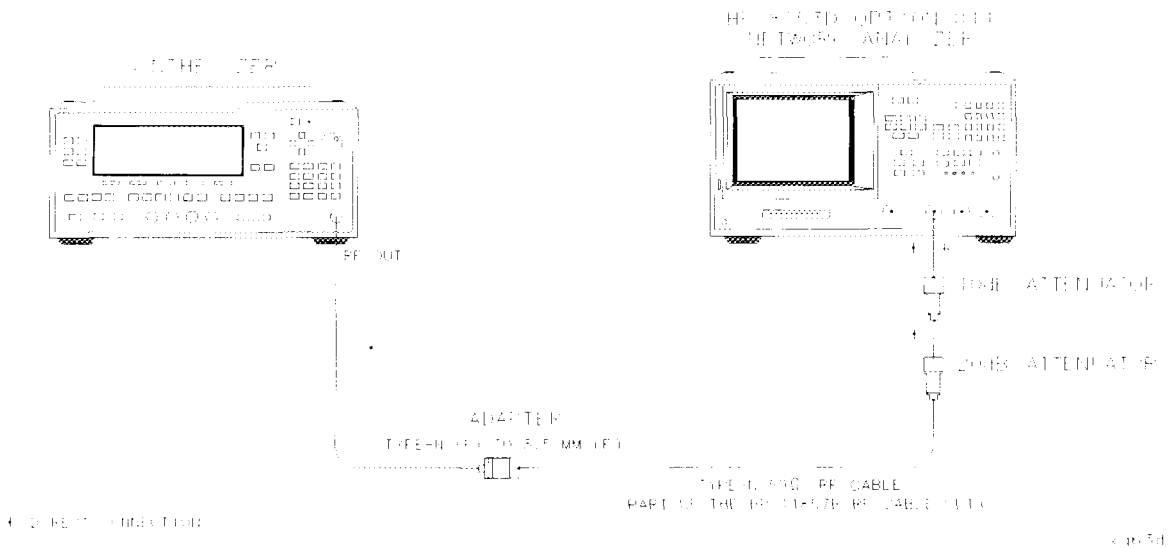

Figure 6-6. Receiver Minimum R Channel Level for External Source Test Setup
- 1 Connect the equipment as shown in Figure 6-6.